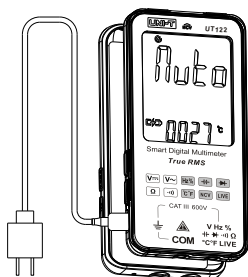

Figure 4
XI. Maintenance (Figure 4)
3. Charge the Lithium battery (Figure 4)